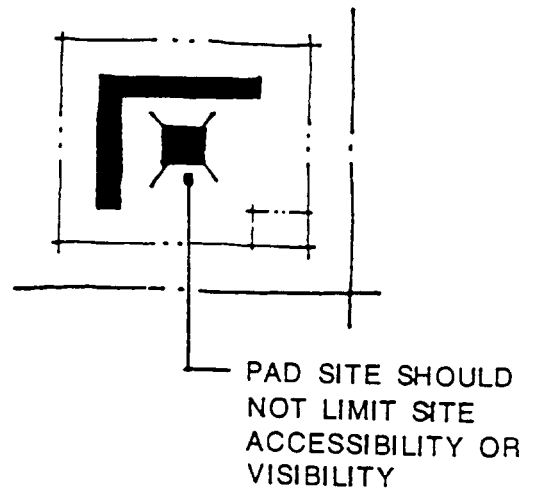

FIGURE 2
- Buildings should be arranged to reduce visibility of service areas from streets, customer parking areas and adjacent properties. (See Figure 2.)